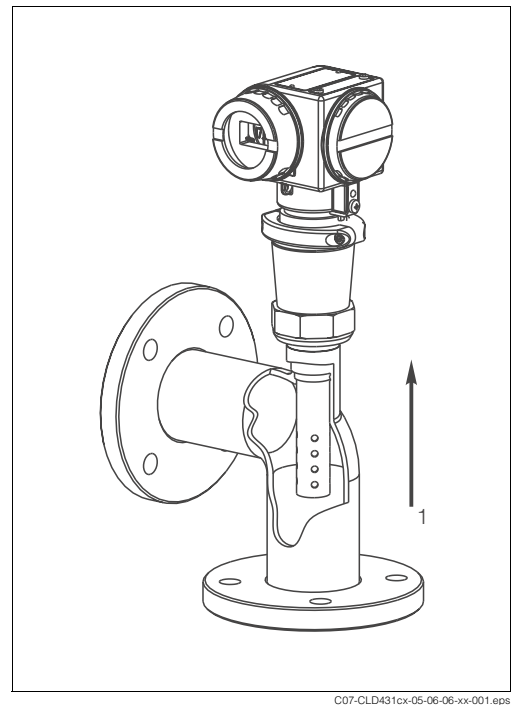

Fig. 9: CLD 431 pipe mounting
- If possible, install the compact version in a way that the medium flow direction to the sensor is upwards (Fig. 9). A lateral flow against the sensor is possible, too. In this case, make sure that the electrodes of the sensor are completely immersed in the medium.